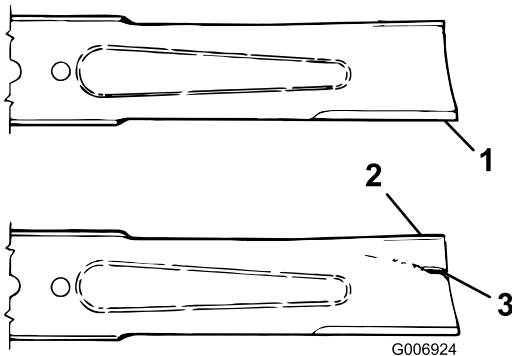

Figure 107
3. Examine the cutting ends of the blade carefully, especially where the flat and curved parts of the blade meet (Figure 107).
4. If wear is noticed (Figure 107), replace the blade; refer to Removing and Installing the Cutting-Unit Blade\(s\) (page 75).
If the blade is allowed to wear, a slot will form between the sail and flat part of the blade (Figure 107). Eventually a piece of the blade may break off and be thrown from under the housing, possibly resulting in serious injury to yourself or bystanders.